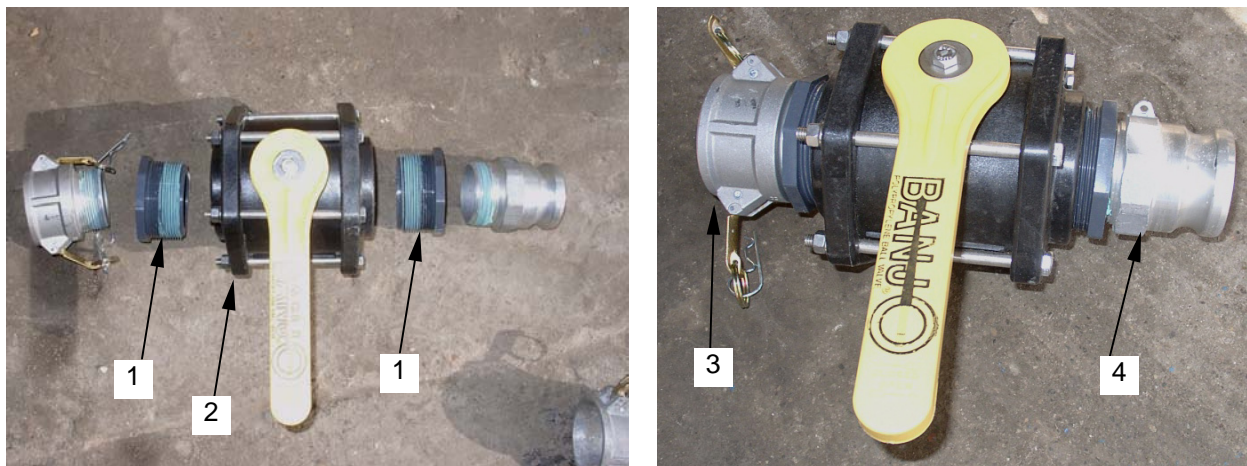

Figure 3. Assembling the Ball Valve
5. Connect valve fittings (**figure 3, item 1**) to the ball valve (**figure 3, item 2**).
6. Connect female cam lock hose fitting (**figure 3, item 3**) and male cam lock hose fitting (**figure 3, item 4**).